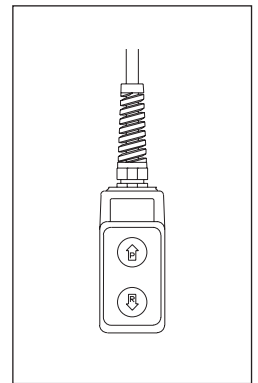

Figure 8, IC-43 Pendant (PER models only)
2. **Solenoid Valve Pendant (PER Models)** — Attach the pendant (see Fig. 8) to the solenoid valve using the connector. Plug valve power cord into 115 VAC outlet.
2. **Pendente da válvula solenóide (modelos PER)** — Conecte o pendente (veja a Fig. 8) na válvula solenóide usando o conector. Conecte o cabo de energia da válvula na tomada de 115 VAC.